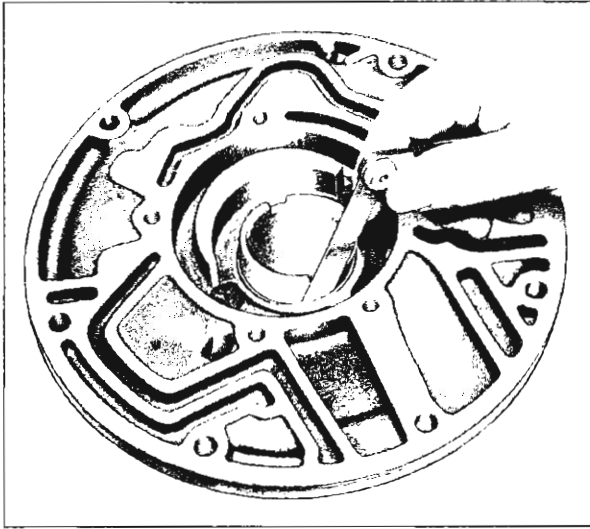

Fig. 21PG—Checking Pump Body Bushing to Converter Pump Hub Clearance
5. Inspect body bushing for galling or scoring. Check clearance between body bushing and converter pump hub (fig. 21PG). Maximum clearance is .005". If the bushing is damaged, the front pump body should be replaced.